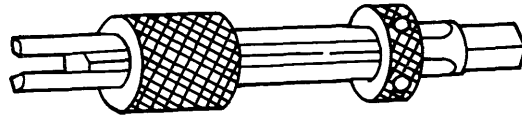

Figure 4-109. Tap Extractor
(2) Tap extractors. Tap extractors, shown in figure 4-109, are sized to remove taps with an outside diameter of 3/16 inch to 2 1/8 inches.